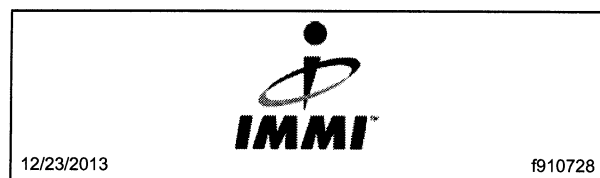

Fig. 1, IMMI Logo
3. Check the buckle for the IMMI logo. See **Fig. 1**.